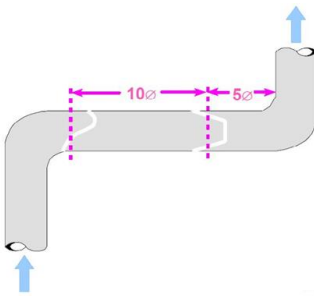

Figure 1: Appropriate Monitoring Location
- **Choose a monitoring location** where you expect there to be laminar, undisturbed, flow. This location should be on a horizontal pipe run at least 10 pipe diameters upstream of a pipe feature and 5 pipe diameters downstream of a pipe feature (Figure 1). If you must use a location with vertical flow, ensure that the meter is installed on pipe segment with upward flow.